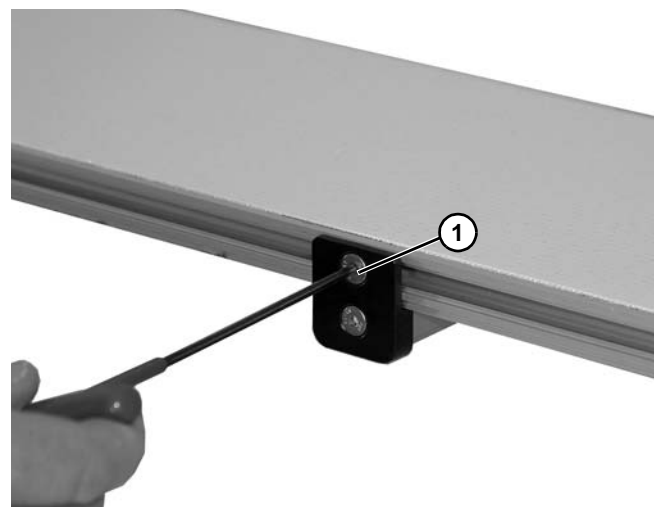

Figure 12
5. Install and tighten screws (**Figure 12, item 1**) to 15 in-lb (1.7 Nm).